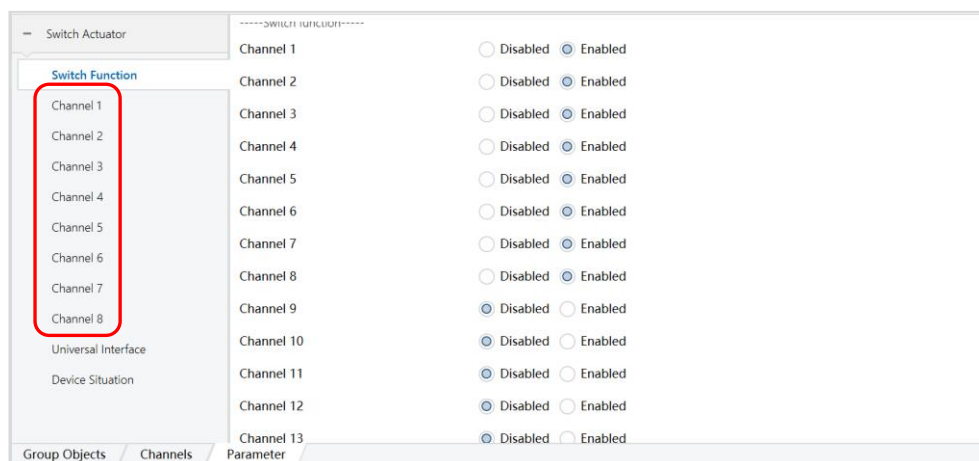

Figure 6.1.2
2) After setting, the interface is shown in Figure 6.1.2, and 8 options in the red block as shown in figure.